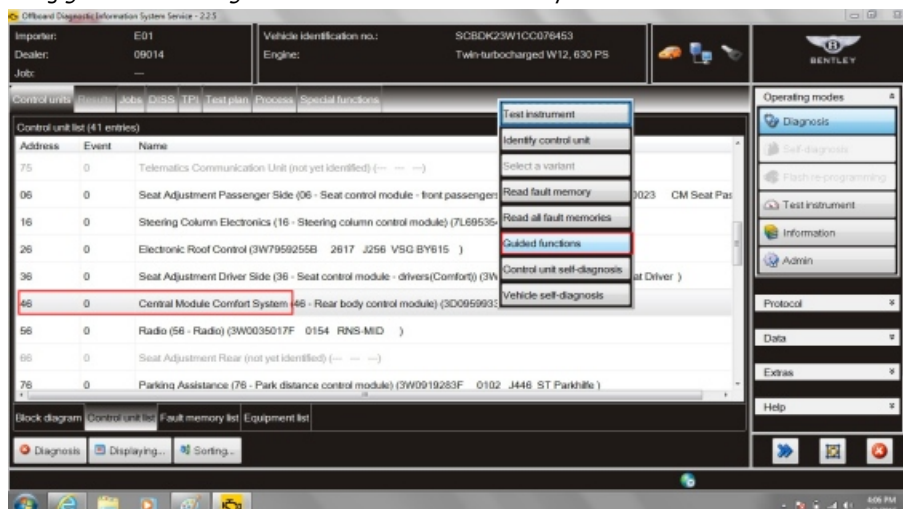

Figure 18
- Within Control units – Select (single touch) *46 Central Module Comfort System* – Reveal drop down menu (extended touch and release), Select *Guided functions* (see Figure 18)